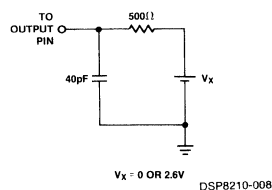

Figure 2. Output Three State Load
1. Transition is measured $\pm 500\text{mV}$ from steady state with loading specified in Fig. 2.